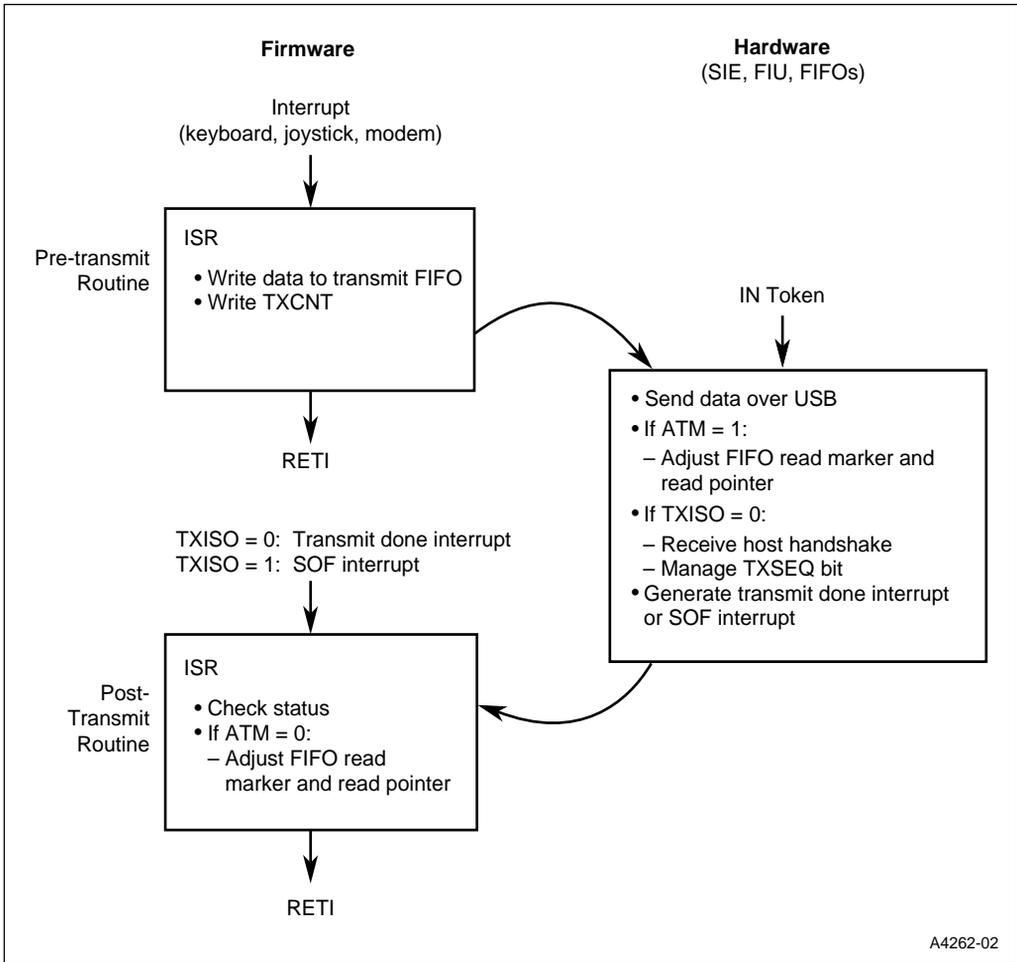

Figure 8-2. High-level View of Transmit Operations
These steps are depicted in a high-level view of transmit operations (Figure 8-2). The pre-transmit and post-transmit operations are executed by the two firmware routines shown on the left side of the figure. Function interface hardware (right side of the figure) transmits the data packet over the USB line. Details of these operations are described in “Pre-transmit Operations” on page 8-7 and “Post-transmit Operations” on page 8-8.
- The TXISO bit (TXCON.3) determines whether the transmission is for isochronous data (TXISO = 1) or non-isochronous data (TXISO = 0). For non-isochronous data only, the function interface receives a handshake from the host, toggles or does not toggle the sequence bit, and generates a transmission done interrupt (Figure 8-2). Also, for non-isochronous data, the post-transmit routine is an ISR; for isochronous data the post-transmit routine is an ISR initiated by an SOF token.